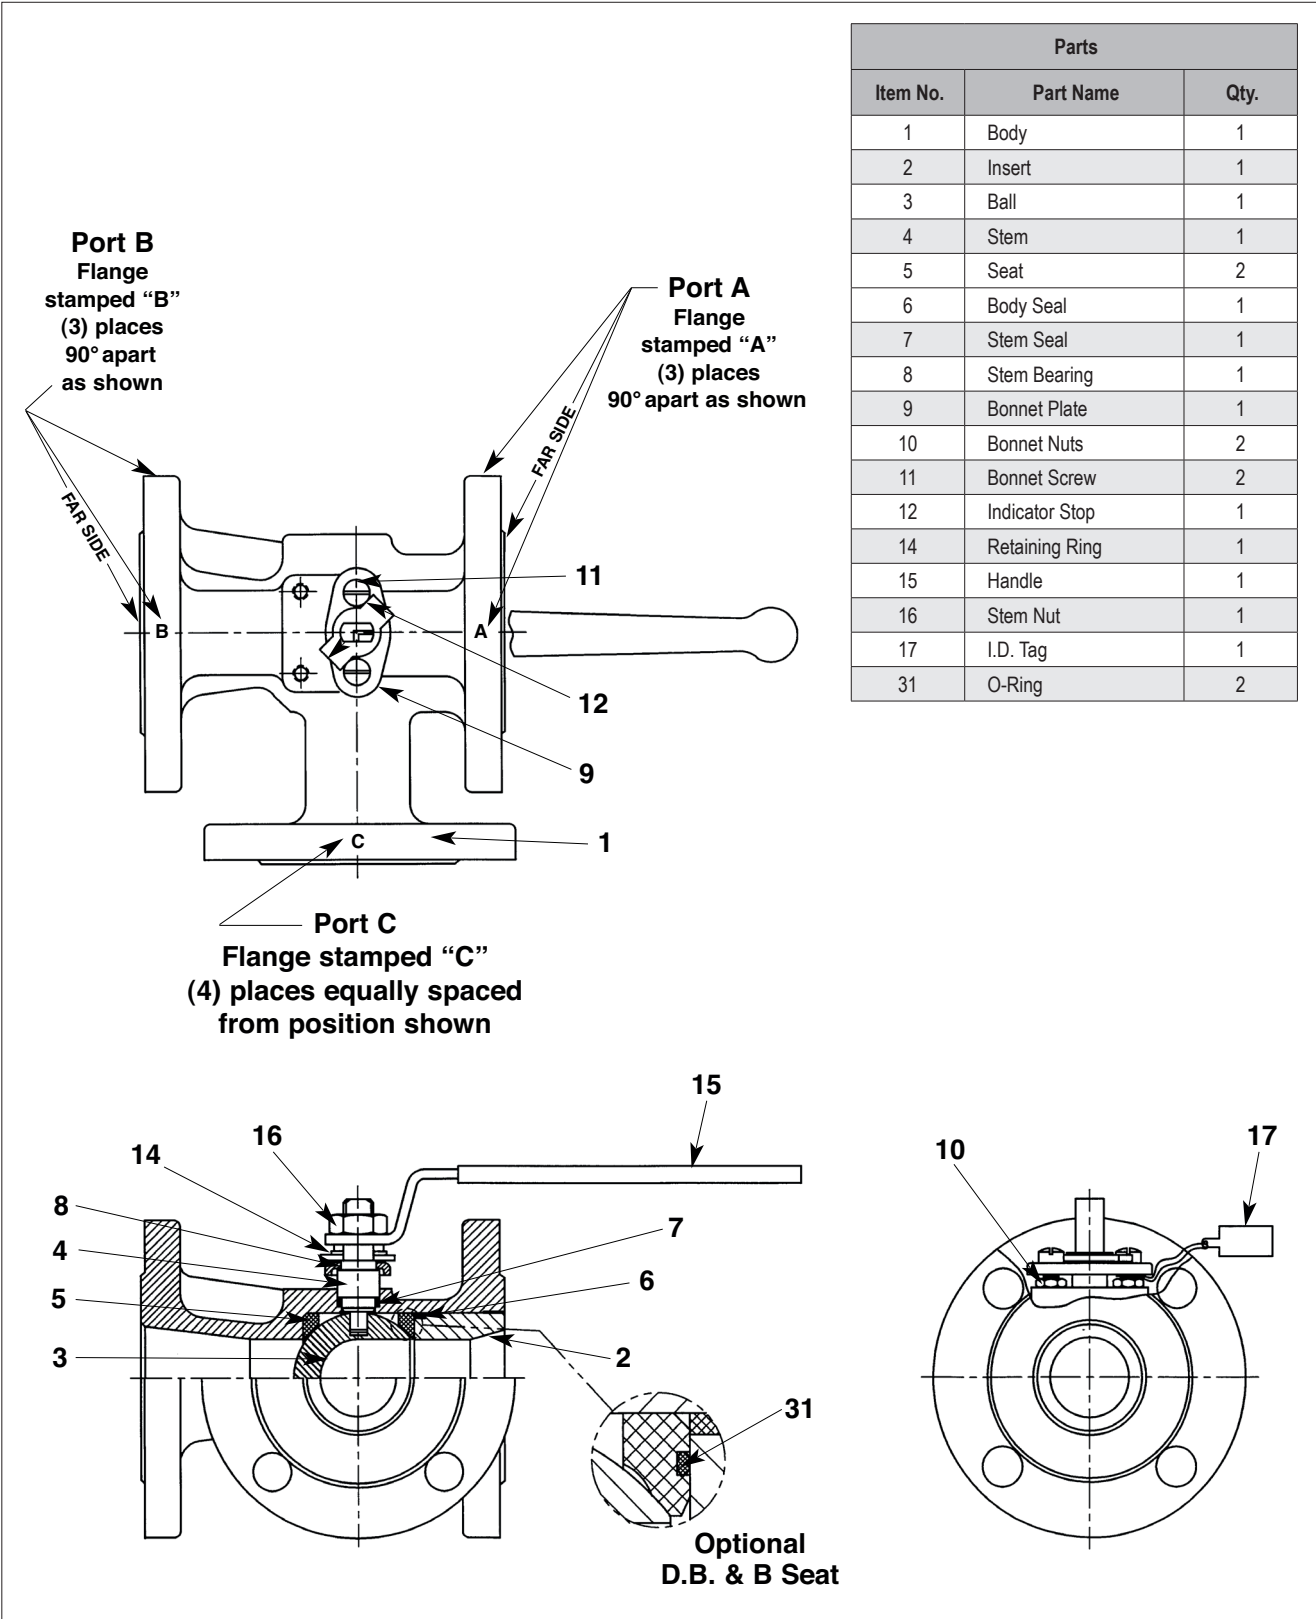

Figure 5.
- c. **From Figure 5 or 6;** the ballooned part number, part name and quantity required.
- c. From **Figure 5 or 6**, the ballooned part number, part name and quantity required.